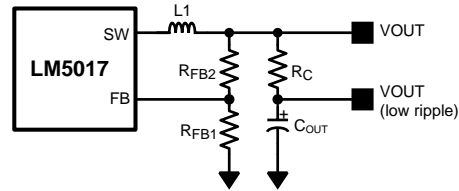

Figure 13. Low Ripple Output Configuration
This regulator regulates the output voltage based on ripple voltage at the feedback input, requiring a minimum amount of ESR for the output capacitor ( $C_{OUT}$ ). A minimum of 25mV of ripple voltage at the feedback pin (FB) is required for the LM5017. In cases where the capacitor ESR is too small, additional series resistance may be required ( $R_C$  in Figure 13 Low Ripple Output Configuration).
For applications where lower output voltage ripple is required the output can be taken directly from a low ESR output capacitor, as shown in Figure 13 Low Ripple Output Configuration. However,  $R_C$  slightly degrades the load regulation.